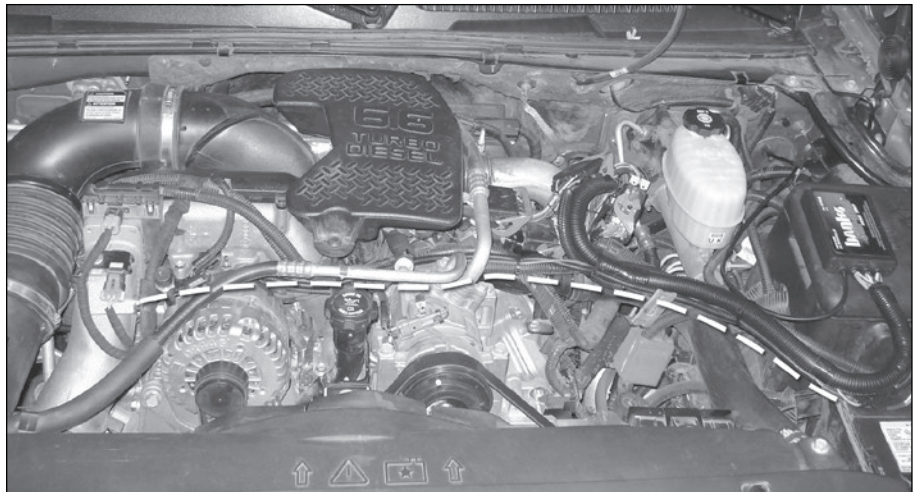

Figure 5.3 Driver's side of engine compartment
6. Locate the MAF connector from the EconoMind harness and route as shown in **Figure 5.3**. Follow the factory harness located on top of the engine that runs in front of the intake manifold and behind the alternator. Feed the connector under the compressor outlet and under where the air intake hose normally rests.